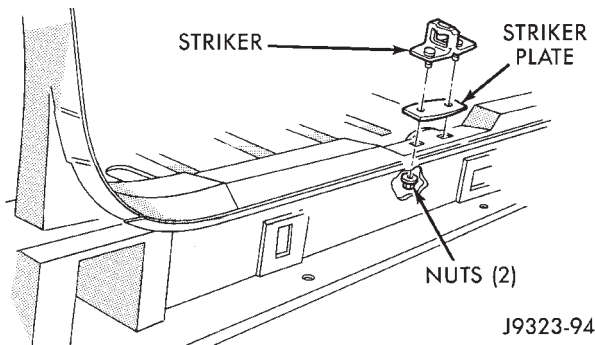

Fig. 27 Liftgate Latch Striker
(8) Remove latch striker nuts from below scuff plate. Access nuts from under bumper fascia/beam. (Fig. 27)
(9) Remove striker and shim (Fig. 27).